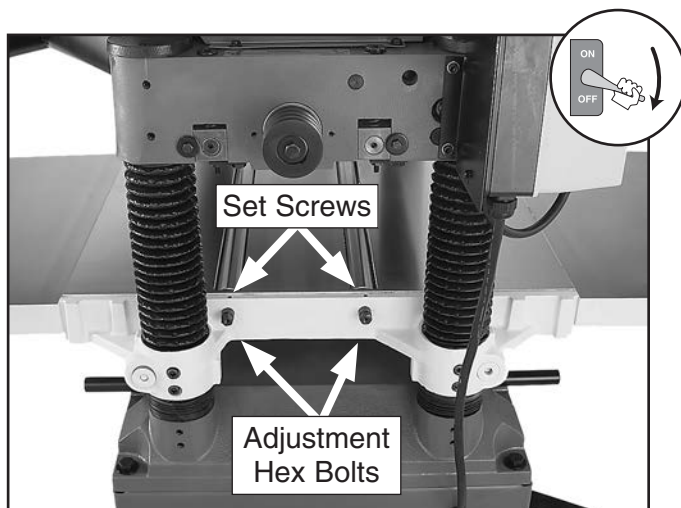

Figure 19. Bed roller height controls.
3. Loosen the set screws above each of the four roller adjustment hex bolts—two on each side (see **Figure 19**).